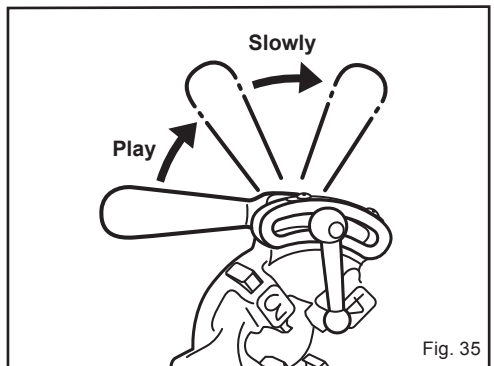

Fig. 35
- (4) When the thread has been cut to the prescribed dimensions, slowly raise the eccentric handle in the direction of the arrow and release the dies to complete the threading process. (Note: If you release the dies too abruptly, it may result in an imperfect finish such as a step-edged thread). (Fig. 35)
- (5) Finally, complete the process by releasing the die head from the pipe by turning the carriage handle to the left. If you place the die head in the raised position, the flow of oil will stop. (Fig. 35)